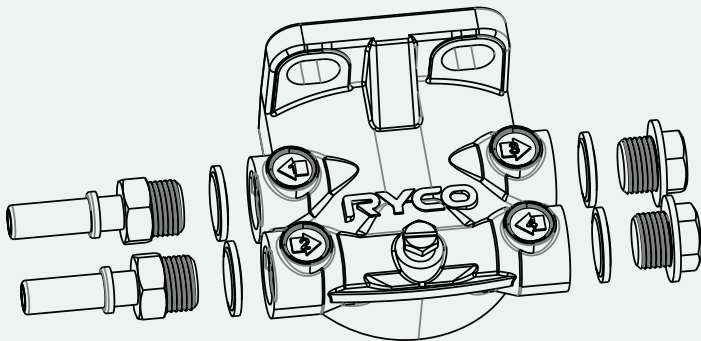

FIGURE 3
- 3 Install the Ryco fuel water separator head with metal quick connectors, blanking plugs and rubber bonded washers, as per FIG 3. Tighten blanking plugs (on Port 3 & 4) and quick connectors (on Port 1 & 2).